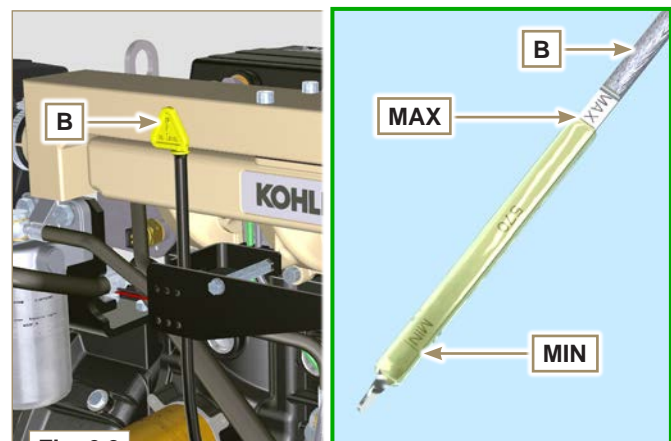

Fig. 6.3
- 2 - Remove the oil dipstick **B** (Fig. 6.3).